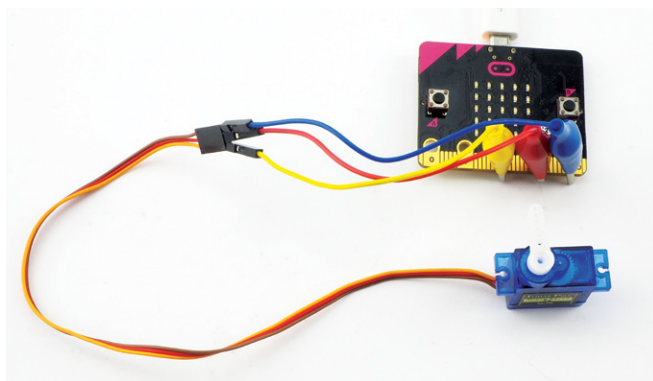

Figure 6-1: A servomotor connected to a micro:bit
One way to get things moving is to use a servomotor, like the one shown in Figure 6-1.
this project, select a simple arm like the one shown in Figure 6-1.
5. Once powered up, the servomotor arm should jump to a 90-degree position, perpendicular to the servomotor. The micro:bit will use this position as a reference point. If the arm isn't at 90 degrees, take it off and put it back on so that it is, as shown in Figure 6-1. If you plan to make the animatronic head, use the small screw to fix the arm in place.